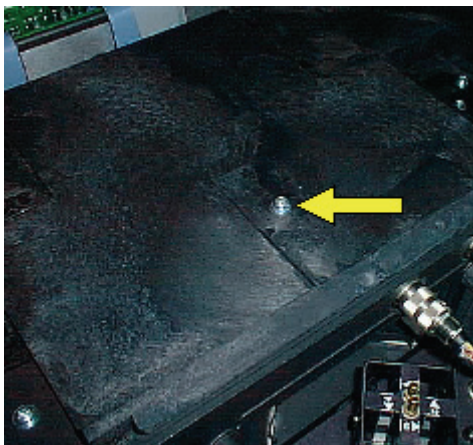
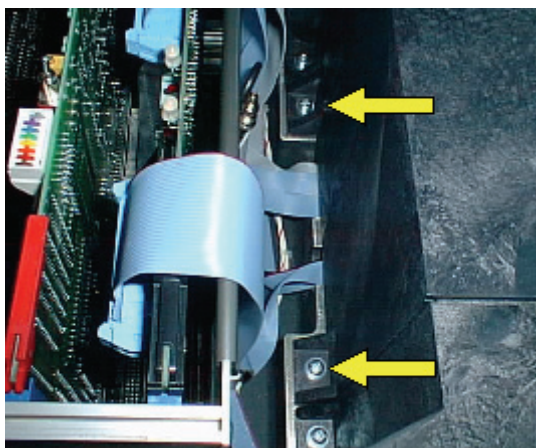

Figure 118 Center screw
Figure 119 Rear screws
2. Undo the 3 screws which secure the middle optical cover, as shown in Figure 118 and Figure 119.